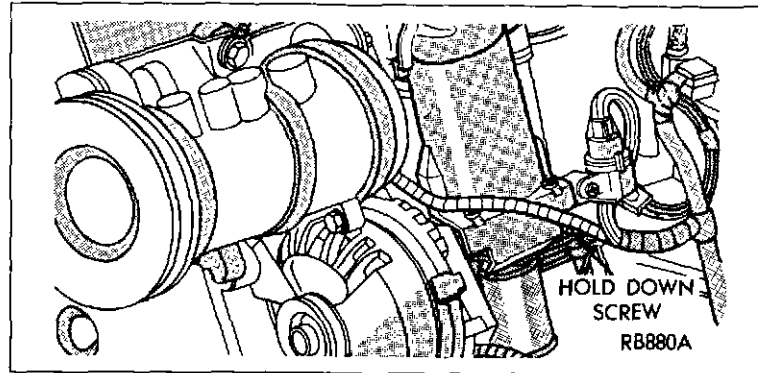

Fig. 21—Distributor Hold Down
1. Remove the high voltage cable (Fig. 21) from the center tower of the distributor and hold the end of the cable at a point 5 to 10 mm (3/16 to 3/8 in.) away from a good engine ground. Crank the engine with the starter and look for a spark at the coil high voltage cable.